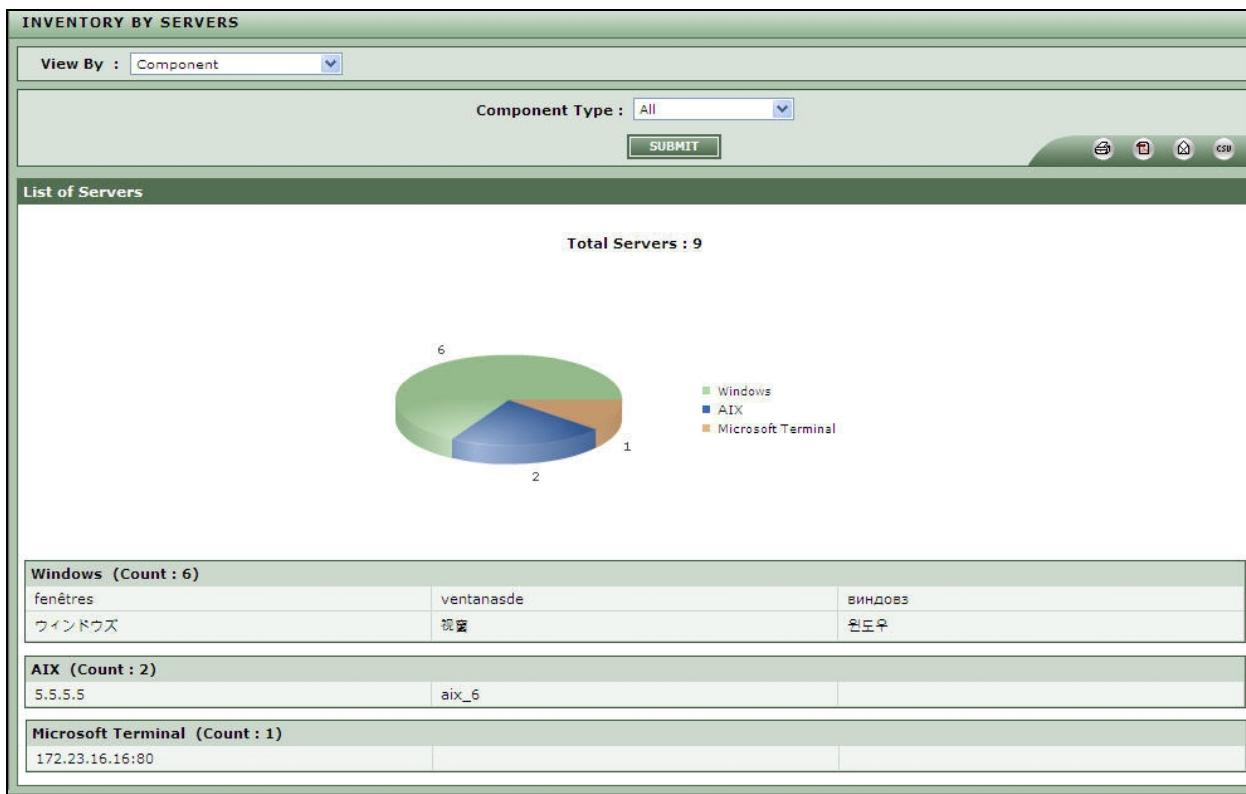

Figure 2.11: Viewing inventory for the servers in the environment
1. Select a component type from the **Component Type** list box as depicted in Figure 2.11. If multiple component types are available, then *All* option will be selected by default from this list box.
1. Select **All** option from the **Component Type** list box as depicted in Figure 2.11.
The component types listed in the **Component Type** list box of Figure 2.11 is exclusive of the component types that belong to the **Network Devices** and **Virtual Platforms** categories.